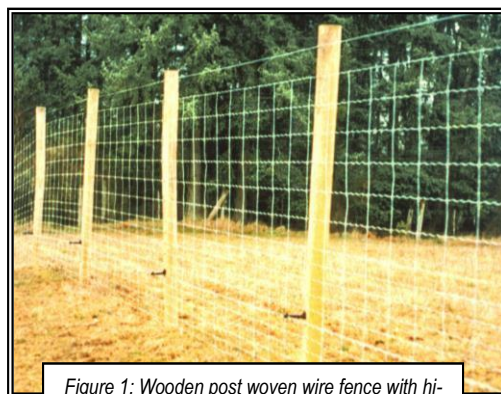

Figure 1: Wooden post woven wire fence with high-tensile wire (HTW) on top
- 1) **Woven wire** (also referred to as page wire): This fencing system is the most effective and the least costly to maintain, but is also the most expensive (**Figures 1, 2**). **If the woven wire system is selected**, there are several further options to consider.